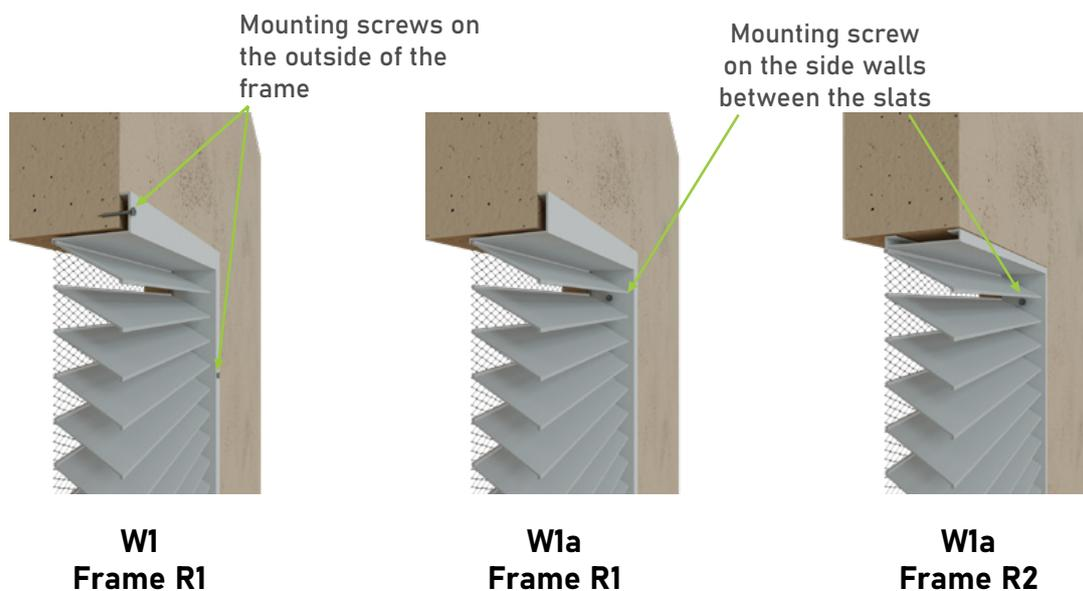

Fig. 3
- **W1*** - visible assembly using screws and mounting holes on the frame (Fig. 3)